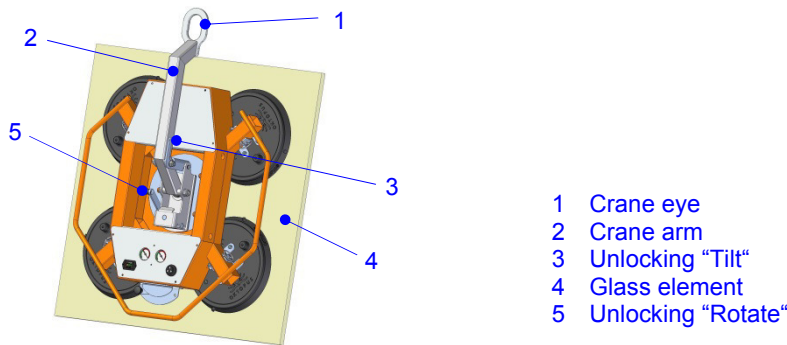

Fig. 8: OKTOPUS® GLASS-Jack GL-N 400/300 with vertical glass element
In order to avoid unintended rotating of the load, you have to ensure that the release lever “Rotate” (see fig. 8) is engaged. The release lever “Tilt” has to be disengaged and the crane arm in a vertical position!
In order to avoid unintended rotating or tilting of the load, you have to ensure that the release levers are engaged (see fig. 8)!
- ⇒ Release the unlocking "Rotate" (see fig. 8) and rotate the load into the required position. Engage the release lever afterwards.
Never release the unlocking "Tilt" (see fig. 8) when loaded! This would result in the load tipping down uncontrollably!
⇒ Release unlocking “Tilt” (see fig. 8) and position the load horizontally.